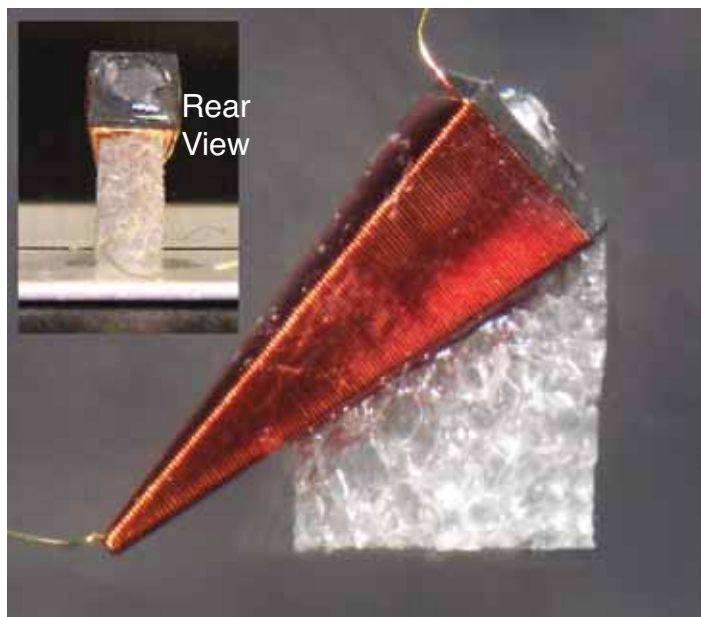

Figure 15: The coil / foam assembly
4. Secure the foam piece to the underside of the coil with a small amount of low density cyanoacrylate ester (Crazy Glue) as shown in **Figure 15**. Make sure that the lead protruding from the small end of the coil is located on the bottom of the coil as shown so that its length will be minimized.